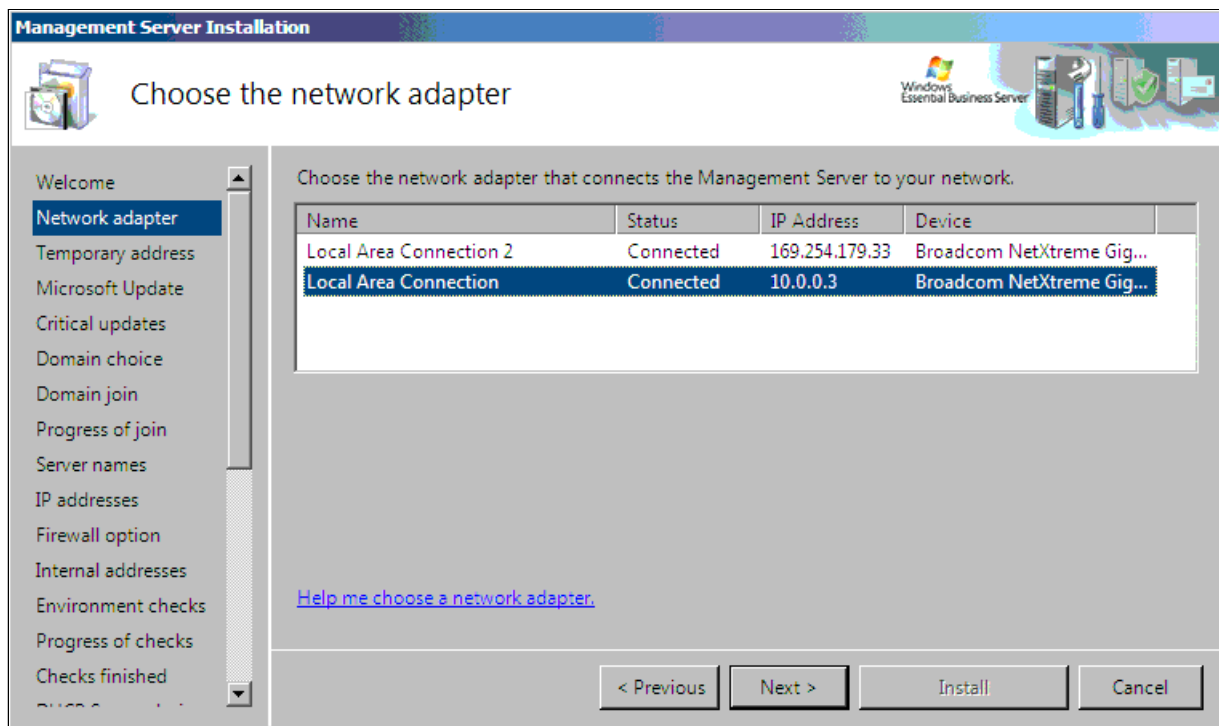

Figure 4-5 Choose the network adapter
11. On the “Choose the network adapter” panel (Figure 4-5), select the network adapter that you use to connect this server to your internal network. Verify that the network adapter is connected to your internal network, and click **Next**.